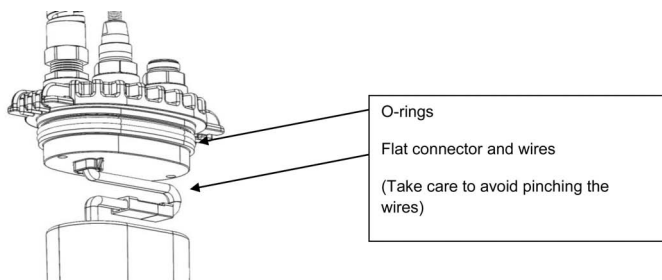

FIG. 4
3. Orientate the SBS™ cap so that the wires will lay flat. See FIG. 4.